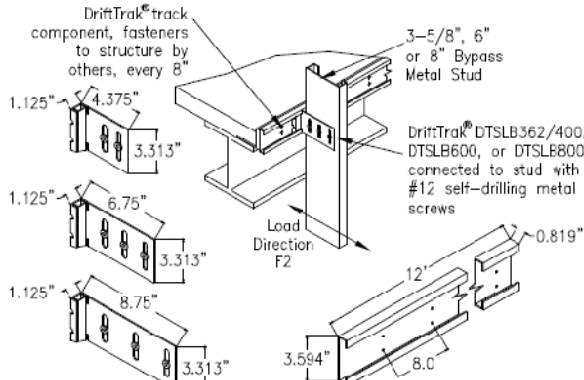

Figure 4 – DriftTrak® DTS362/400, DTS600 and DTS800
**3.1.5 DriftTrak® DTSLB:** DriftTrak® DTSLB362/400, 600 and 800 are L-shaped angle and track combinations that connect  $3\frac{5}{8}$ - or 4-, 6- and 8-inch-deep (92 or 102, 152, and 203 mm) exterior curtain wall steel studs, respectively, to a concrete floor slab's pour-stop angle while allowing a maximum of 2 inches (51 mm) of vertical movement, and free horizontal movement between exterior wall elements and the primary structure. The minimum base-metal thickness of the clip is 0.0677 inch (1.7 mm), and the minimum base-metal thickness of the track is 0.0966 inch (2.5 mm). The long leg of the DriftTrak® DTSLB connector, which is fastened to the curtain wall stud, has two or three vertical slots, each  $\frac{3}{8}$  inch (9.5 mm) wide by  $2\frac{3}{8}$  inches (60 mm) long and has bushings designed for No. 12 self-drilling/self-tapping steel screws installed in the centers of the slots. Refer to Figure 4 for overall dimensions of each DriftClip® DTSL connector and a typical installation detail.